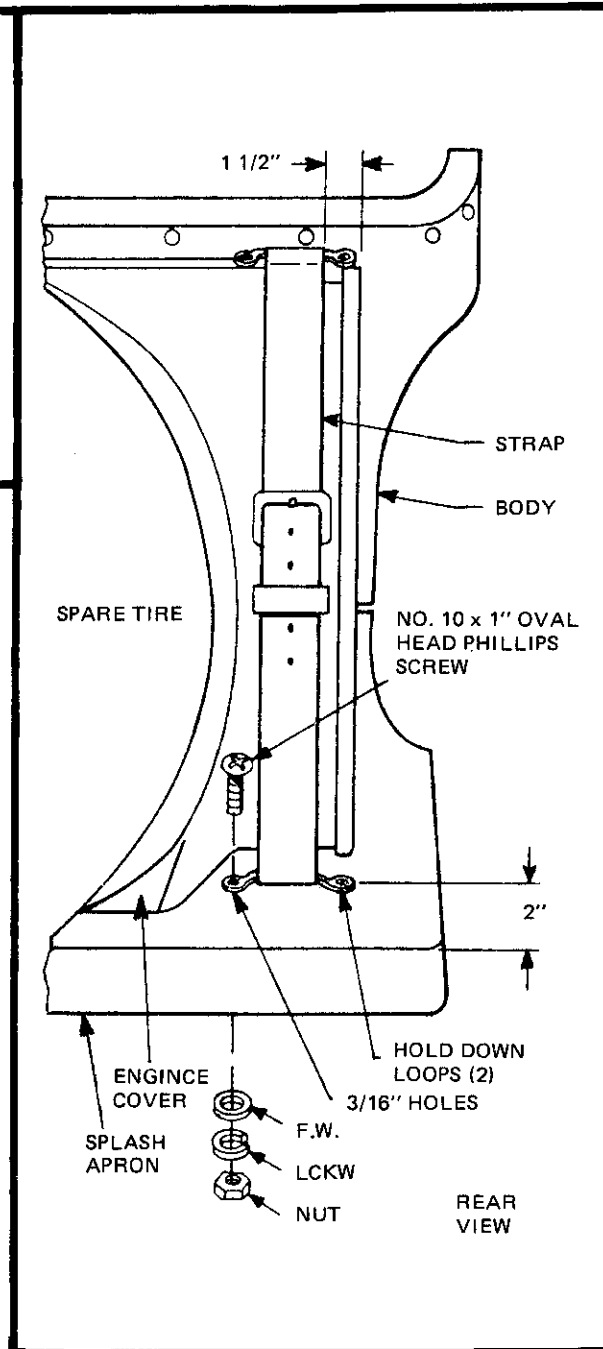

Figure 55
- ☐ The straps are installed 1 1/2" from the edge of the rear cover. (Figure 55) With strap attached, install two of the hold down loops provided into the splash apron, approximately 2" from the back edge. Drill 3/16" holes. Secure with No. 10 x 1" oval head phillips screw with flat washer, lock washer and nut. Pull strap taut and attach to top of cover, using same hardware as above. Adjust strap as necessary.